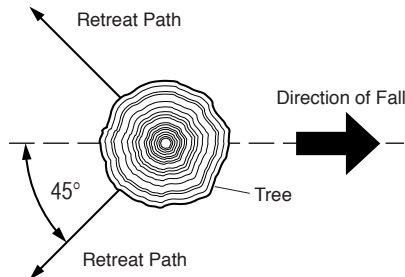

Figure 9 Retreat Path From Tree
3. Plan and clear a retreat path before felling. Make retreat path opposite to planned direction of fall of tree and at 45° angle (see Figure 9).